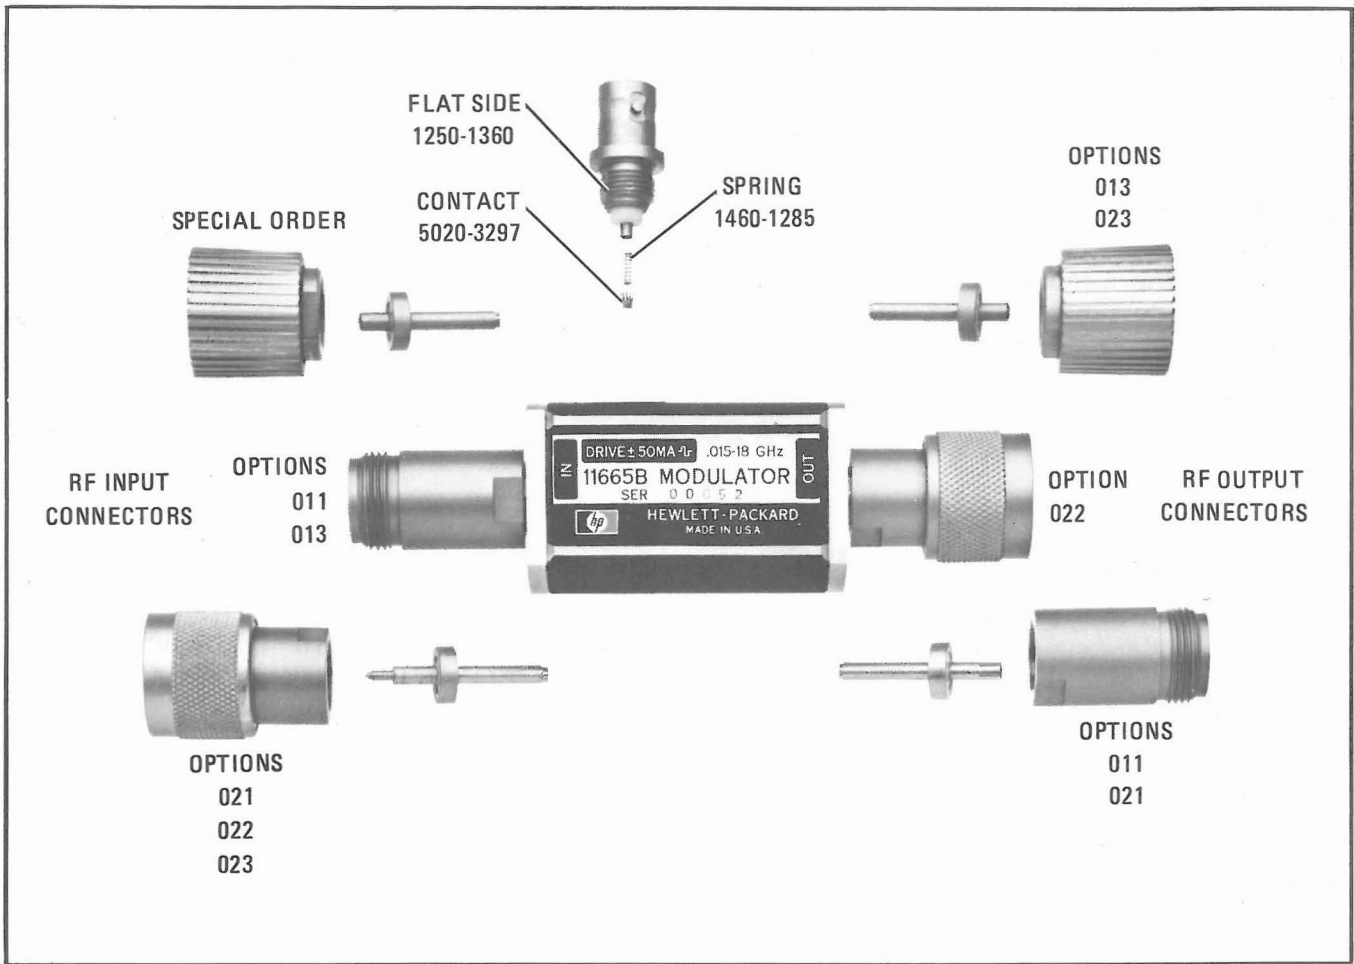

Figure 8-1. Model 11665B Connectors
8-12. Several standard HP RF Input connectors (Figure 8-1) may be used on the 11665B. The following connectors are available:
c. Remove the BNC connector carefully so as not to lose the contact and spring in the BNC center conductor assembly. See Figure 8-1.
Page 8-2, Figure 8-1: